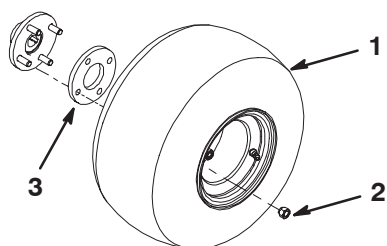

Figure 2
1. Remove the (8) lug nuts securing the rear of the aerator to the packaging.
2. Mount a wheel to each hub with (4) lug nuts (Fig. 2). Torque the nuts to 45–55 ft.-lb. (61–75 N·m).